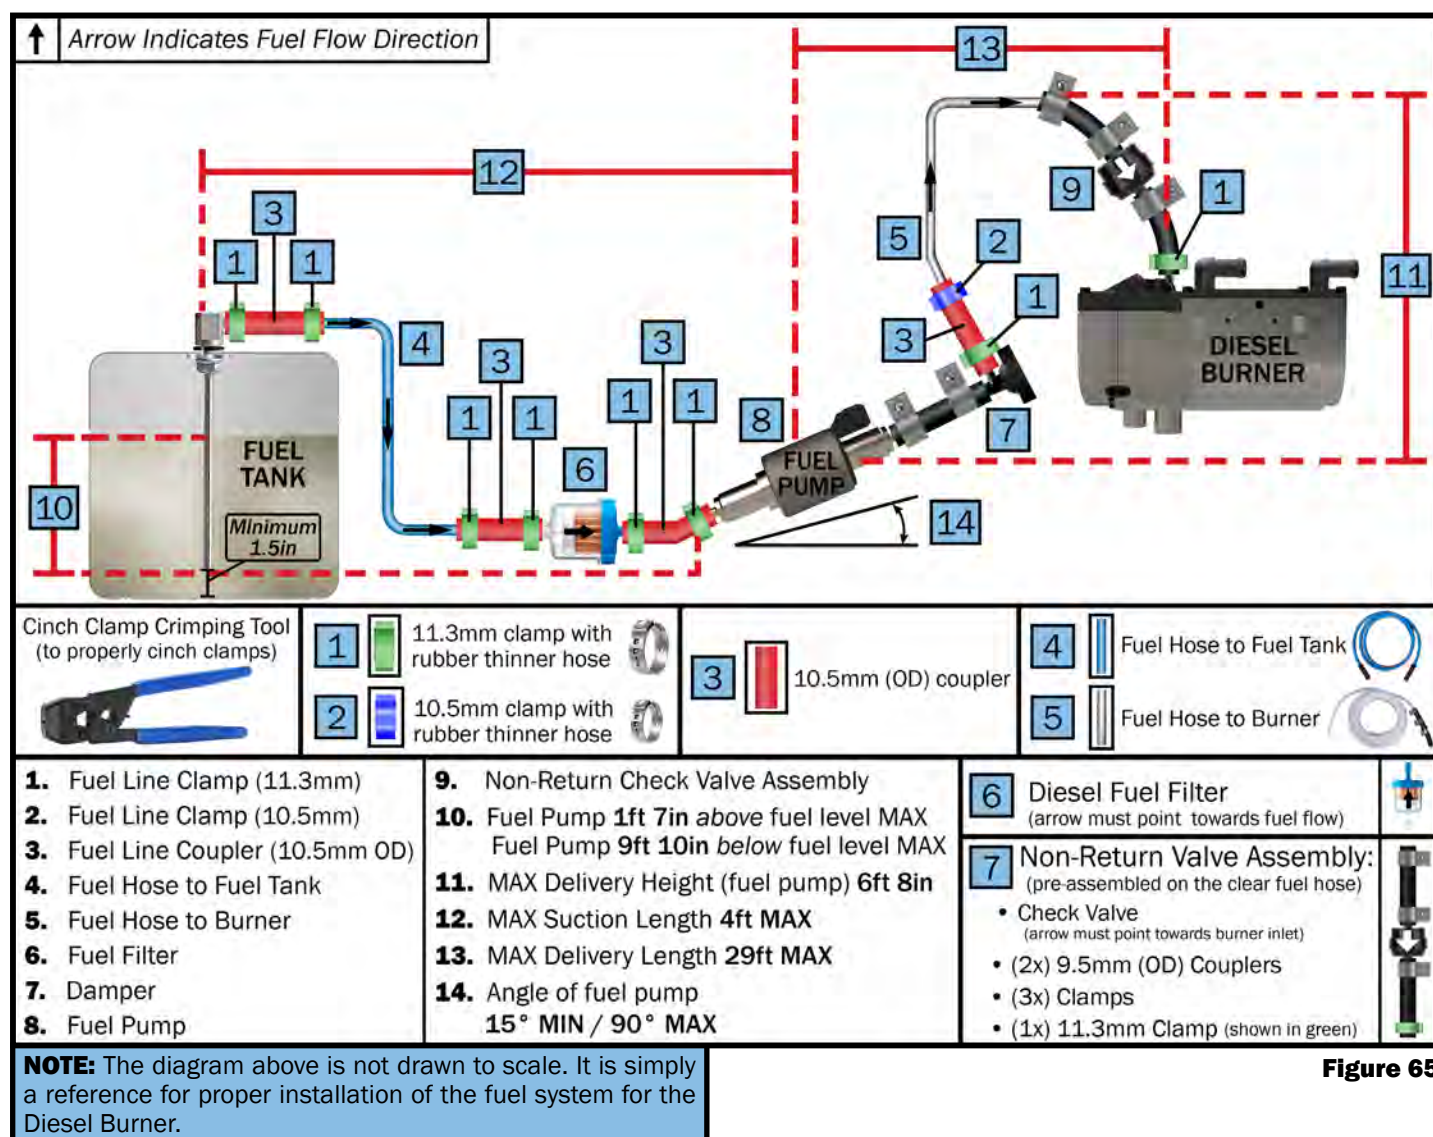

Figure 65
- Ensure the fuel system meets the requirements detailed in Figure 65.